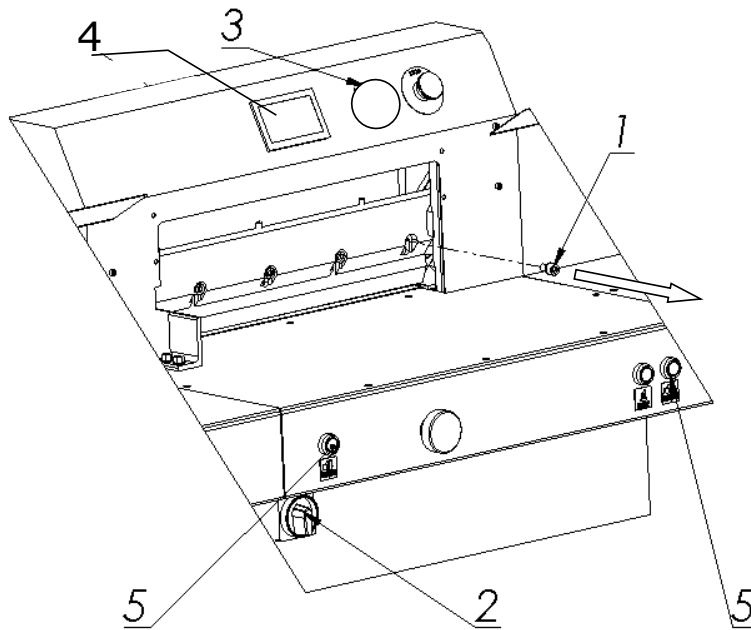

Figure.22
Unscrew and remove the first fastening screw 1 from the right side of the cutter bar (Fig. 22).
8.1.1.5 Switch on the power supply of the electrical system by turning the main switch knob 2 (fig.22) to position "I"
8.1.1.7 On the program screen 4 (fig.22), deactivate the "knife change" function
8.1.2.8 Press the "Change knife" function on the programmer 4 (Fig.22)
- 8.1.2.20 Switch on the power supply to the control system by pressing the green push button 3 (fig.22).